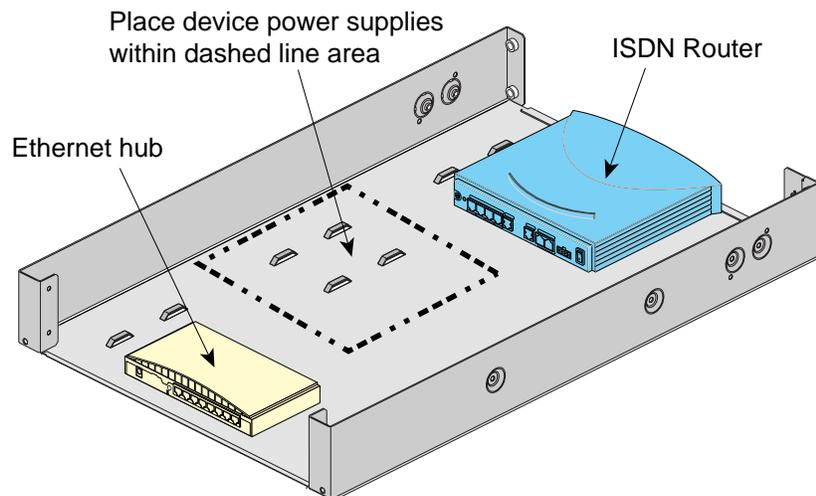

Figure 3-5 Utility Tray (Rear View)
The utility tray is a 2 U shelf that mounts in the top 2 U (slot 38 and 39) of the first compute rack (001) of an SGI SNIA 3800 system. The purpose of the utility tray is to hold miscellaneous peripheral devices, such as the Ethernet hub, ISDN router and modem. The standard locations for these peripherals is shown in Figure 3-5. The devices placed on the utility tray will be held in place with velcro straps. A system that is configured with an ISDN router normally will not have a modem. Therefore, if a modem is configured, it will be placed in the same location as the ISDN router. The physical dimensions of the utility tray are 3.25 H × 17.5 W × 27.25 D.